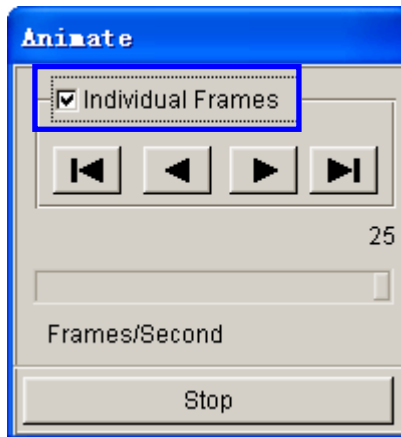

Figure 97: Animate dialog box
3. You can select the **INDIVIDUAL FRAMES** option from the ANIMATE dialog box illustrated in Figure 97 to display the incremental tool movement.